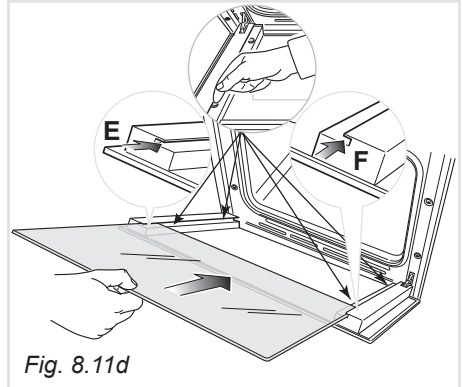

Fig. 8.11d
IMPORTANT: It is advisable, while refitting the glass, to keep pressed in position the four rubber pads "D", by a finger, to avoid breakage or slippage of the rubber pads themselves (fig. 8.11d).
- Insert the pane in the left "E" and right "F" slide guides (fig. 8.11d), and gently slide it to the retainers "H" (fig. 8.11e).